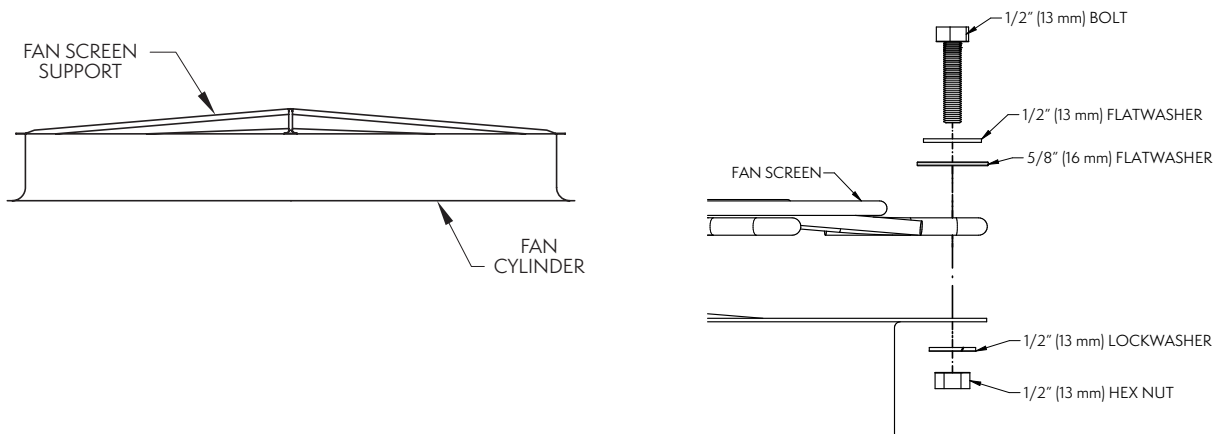

Figure 22 – Fan Screen Support & Fan Screen installation
1. Set the fan screen support across the top of the fan cylinder as shown in Figure 22.
4. At each hole, attach the fan screen to the fan cylinder as shown in Figure 22. At the four points where the fan screen support meets the cylinder, bolt the support to the cylinder together with the fan screen.